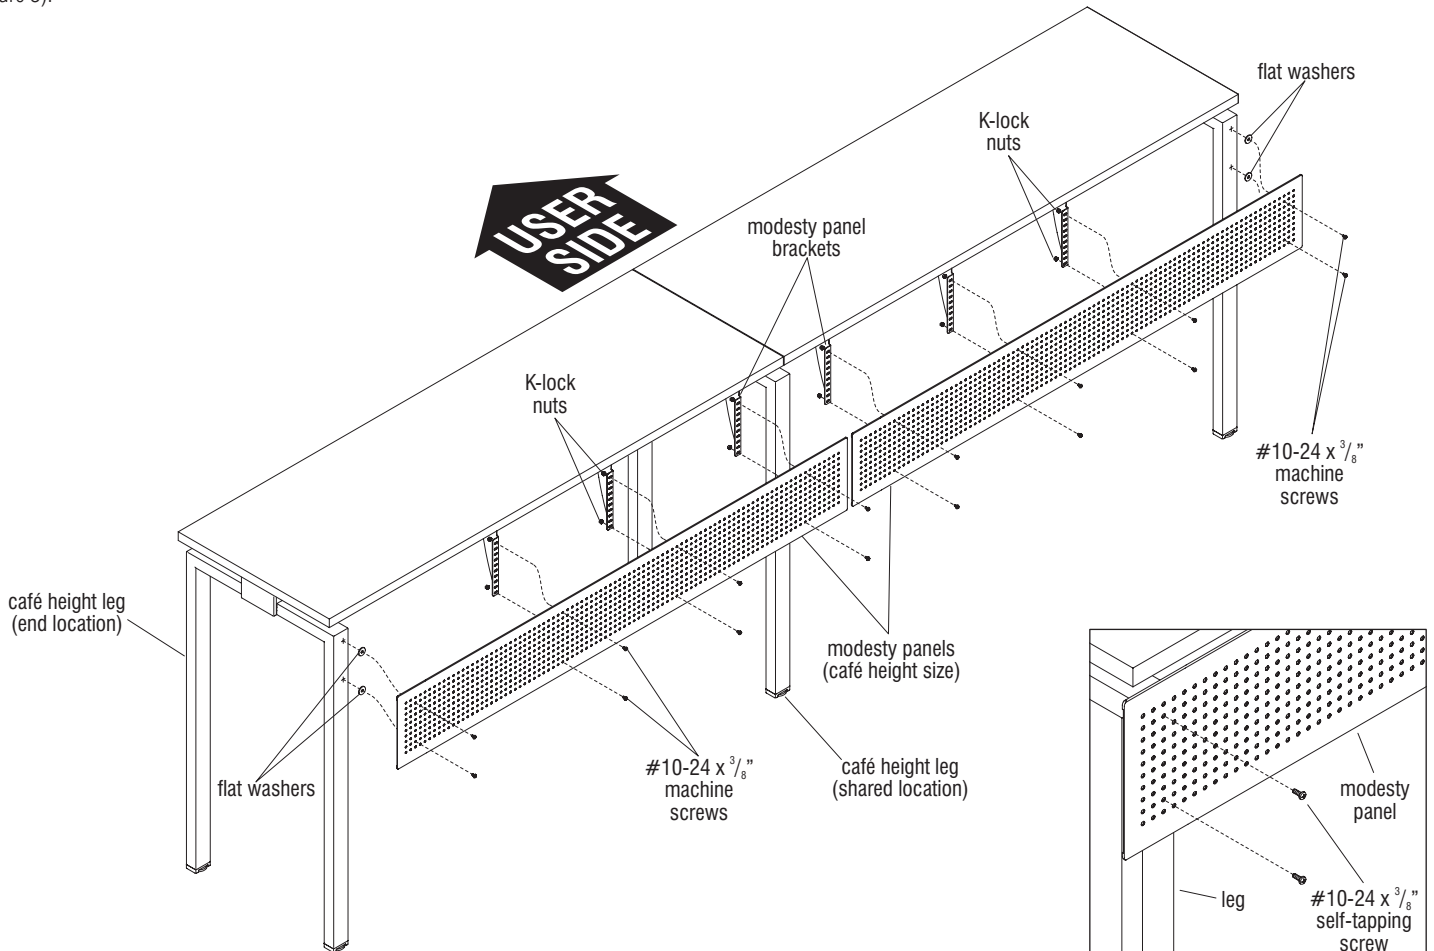

Figure 3 - Single-Sided Fixed, Café Height Benching - Modesty Panel Installation
3. Carefully position the modesty panel up to the modesty panel brackets, and center the modesty panel on the worksurface. Take care to also align the appropriate top and bottom mounting holes of the modesty panel with the corresponding holes in the modesty panel brackets (Figure 3).
4. Using #10-24 x $\frac{3}{8}$ " machine screws in the front and K-lock nuts at the rear, secure modesty panel to the modesty panel brackets. Only the top and bottom mounting holes of each modesty panel bracket need be used for attaching the panel to each bracket. Take care to push upward on the bottom of the modesty panel while tightening the screws, so the unused holes in the modesty panel align with the slots in the bracket for a clean finished look (Figure 3). Make sure panel is level before going to the next step.
5. After each panel is secure to brackets it must also be secured to each end leg. Use a $\frac{1}{4}$ " drill to bore two pilot holes into end legs. Both pilot holes will be bored at the third vertical row of holes inward, with one hole drilled into the second row down, and the other hole drilled in the second row from the bottom as illustrated (Figure 3).
7. Next, using the supplied #10-24 x $\frac{3}{8}$ " machine screws (color-matched) and flat washers, secure the modesty panel to the leg. Flat washers go between the modesty panel and the leg as illustrated (Figure 3).